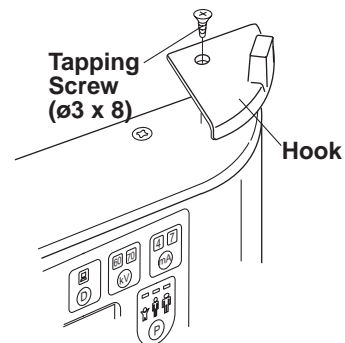

Fig.3-24 Attaching Hand Exposure Switch Hook
5. Place the hook on the top corner (right or left) of controller and attach it with the tapping screw (ø3 x 8mm). (Fig.3-24)